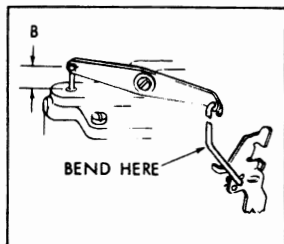

FIGURE 2
a. See Figure 2 and Adjustment Data Table. With throttle valves fully closed (throttle stop screw backed out) the distance between top of accelerating pump link and top of air horn (B) should be as listed in the table when measured with a scale. To adjust, bend pump rod at point indicated.
PUMP ADJ. Fig.2